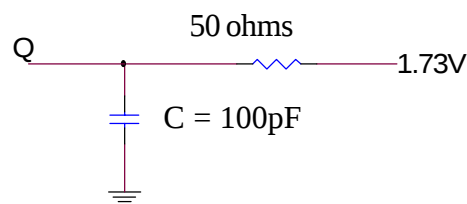

Fig. 1 Output Load Equivalent
Output load	See Figures 1
5. Test conditions as specified with the output loading as shown in Fig. 1 unless otherwise noted.
12. Output enable (OE) is inactive (HIGH).
13. Output enable (OE) is active (LOW).